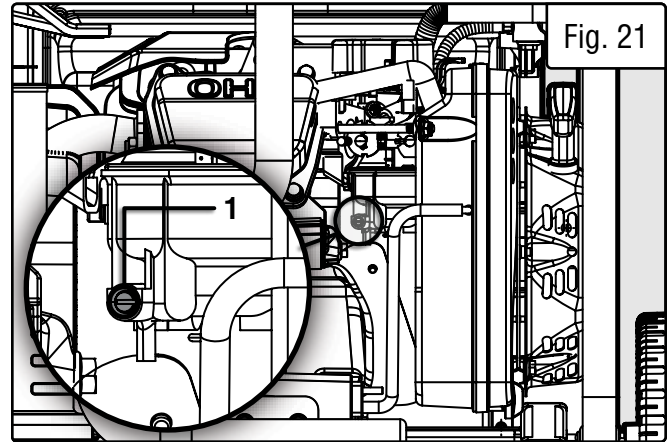

Fig. 21
2. The carburetor can be accessed from the backside of the generator between the engine and the air filter. To drain the carburetor, open up the carburetor drain screw (Fig. 21 - 1) with a Phillips-head screwdriver (not included) and drain out any gasoline that has built up inside.